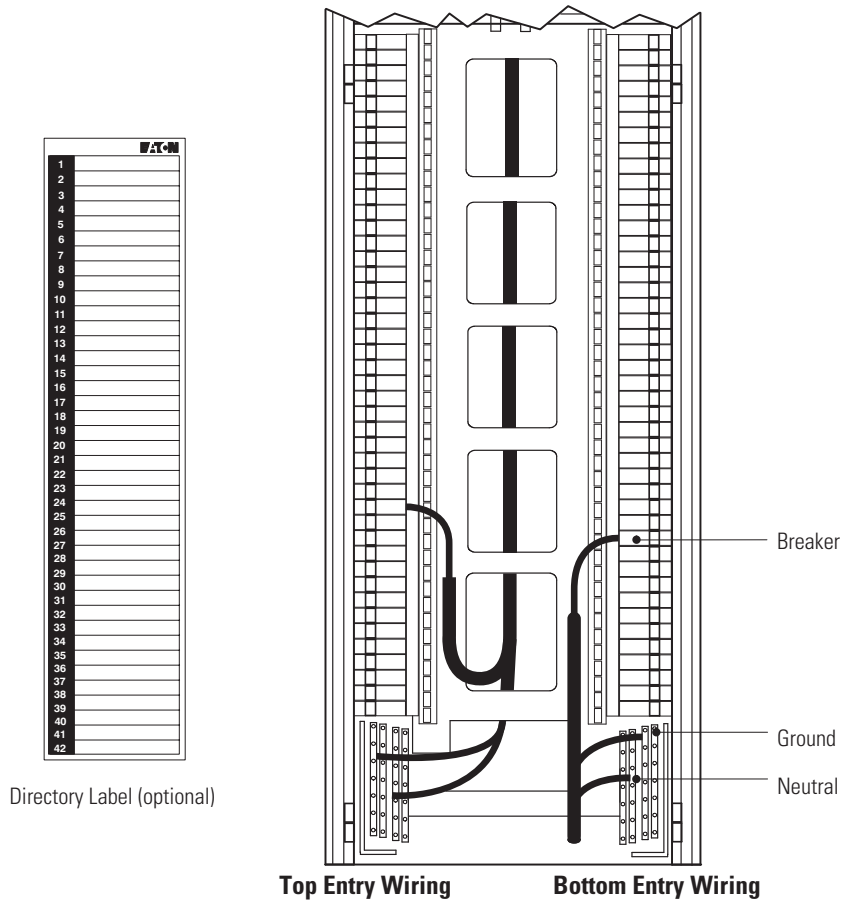

Figure 20. Wiring the Output Connections
17. Connect the output power to the 42-pole circuit breaker panelboards according to the branch circuit breaker manufacturer's ratings and instructions, Figure 20, and Table 4. For each pole, install the customer-supplied branch circuit breaker (if not factory-installed) and wire the breaker, ground, and neutral wires. Balance the loads. Provide adequate strain relief and retention for each wire.
18. **Optional.** Directory labels (see Figure 20) are installed on the inside of the interior barriers for identifying branch circuit numbers and equipment being served. Use an erasable pen or #2 pencil to identify the breakers.